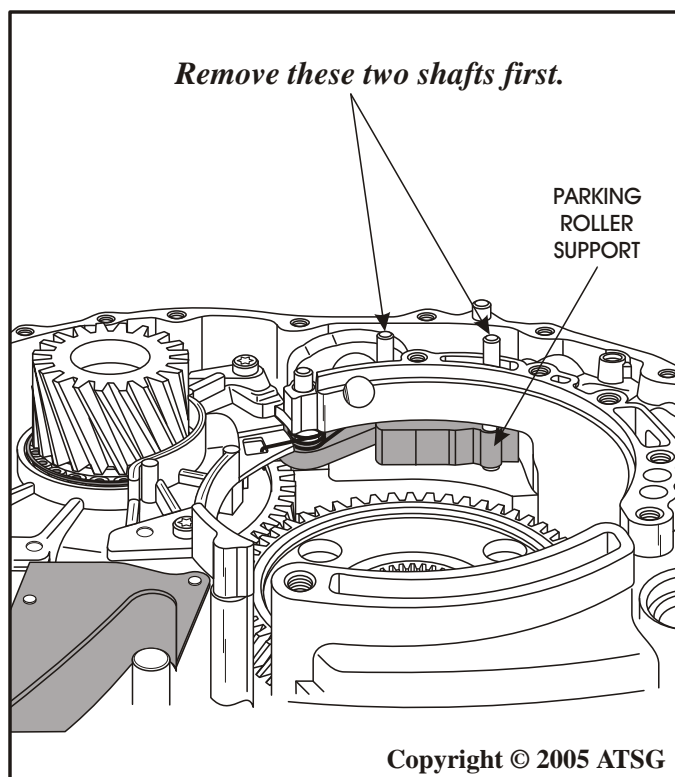

Figure 57
74. Remove the two shafts retaining the parking roller support, as shown in Figure 57.